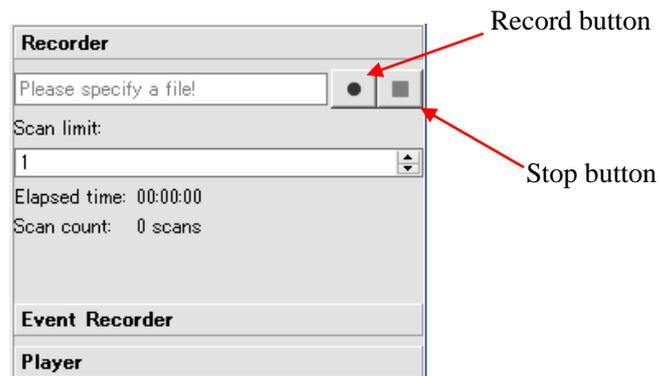

Figure 7-57(a) Data logging window
Enter the number of scans in the scan limit field (Figure 7-57) and click the record button. Application will automatically create the file click save. Change the file name and folder if necessary. Data recording will start and stops automatically when the specified scan count is completed. Click the stop button to terminate the recording before reaching the scan count.
- e) Click “Event Recorder” to record the data just before and after the OSSD signal is triggered to OFF state (Figure 7-57(b)).